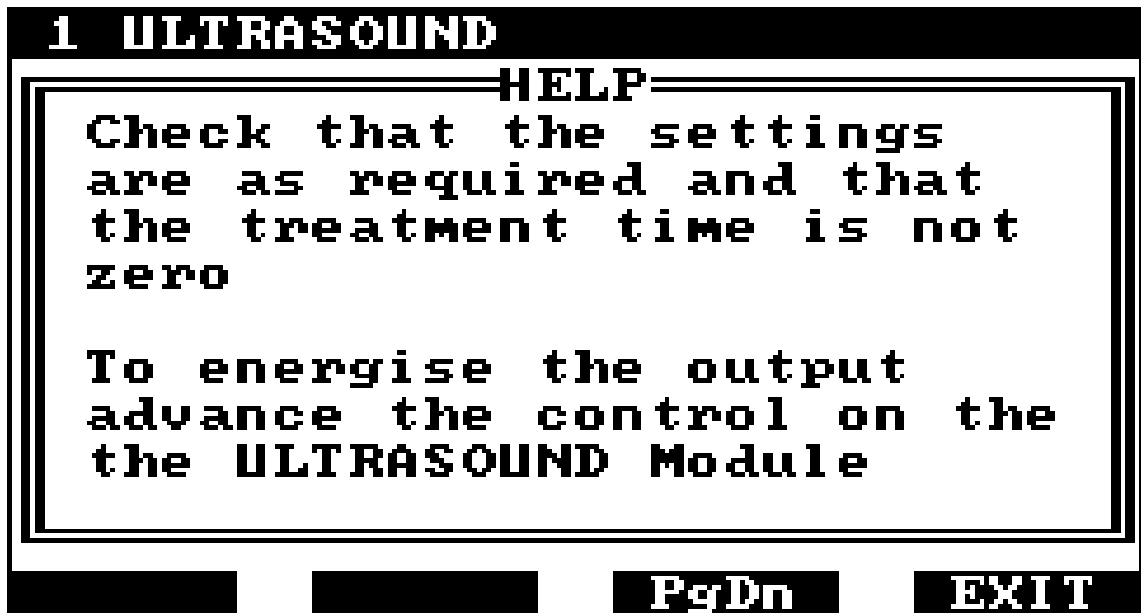

Figure 21 - Help Text Display
24. **F1 - HELP:** When the label for function key F1 is HELP, pressing F1 will suspend the current activity and the display will show help text relevant to the current display or activity (see figure 21). If the help text is more than can be displayed at one time, it may be scrolled up or down, one line at a time using the up and down arrow keys, or one screen full at a time by pressing F2 - PgUp or F3 - PgDn. To exit from HELP, press F4.